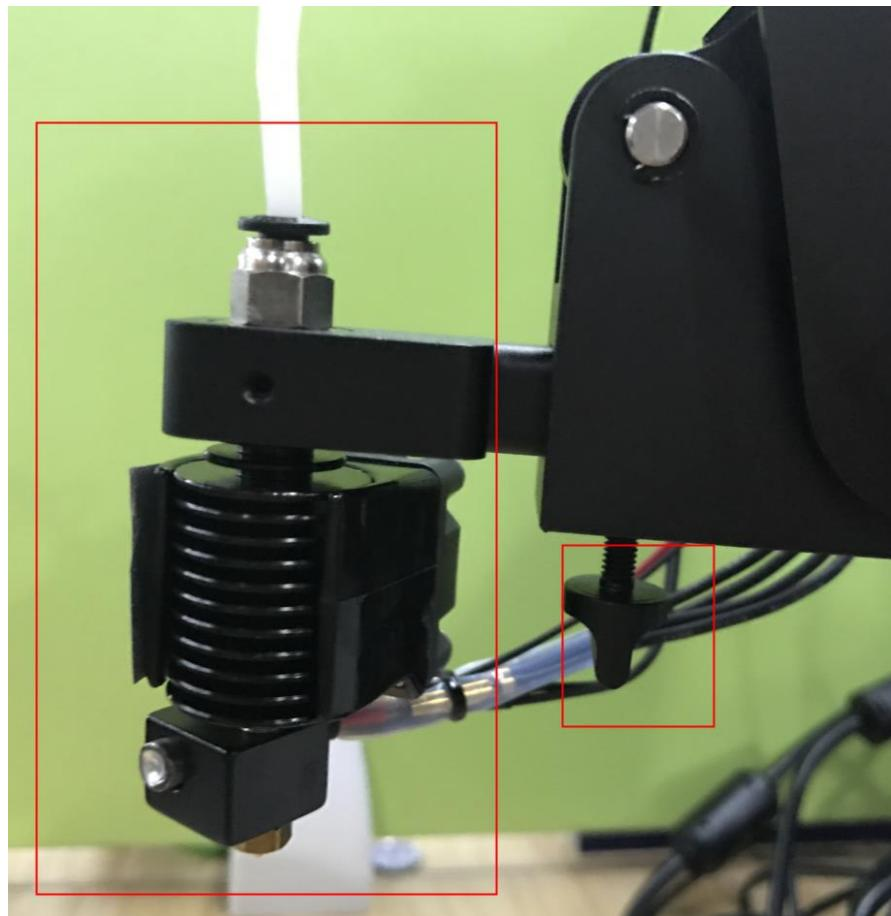

Figure 5.107 Fix hot end
**Step 4** Fix the hot end on the Dobot Magician with clamp fixing screw, as shown in Figure 5.107.